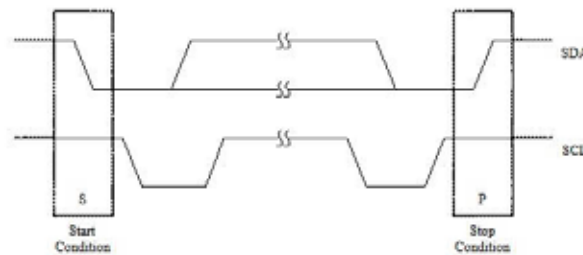

Figure 2.1 Start and Stop conditions
- Start and stop condition : A high to low transition of the SDA line while SCL is high defines a start condition. A low to high transition of the SDA line while SCL is high defines a stop condition. Please refer to Figure 2.1.